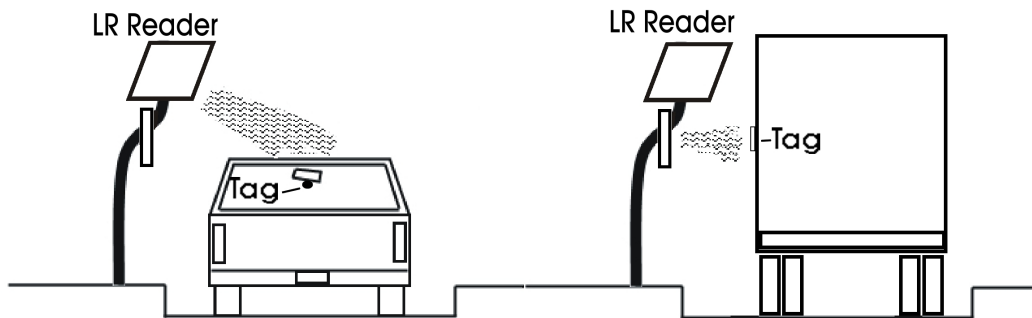

Figure 6. Mixed passenger vehicles and large trucks -- using LR-3000HiLoMA.
1. Mount the reader so that it faces the MT tag at the "sweet spot" reading location. See Figure 6 for an example at the left side.